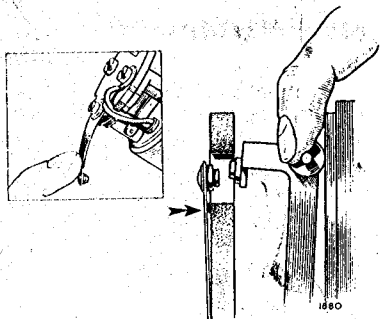

Fig. 12. Setting the contact blade to ensure contact with the pedestal ridge
27. Check that when the outer rocker is pressed onto the coil housing, the contact blade rests on the narrow rib or ridge which projects slightly above the main face of the pedestal (Fig. 12). If it does not, slacken the contact blade attachment screw, swing the blade clear of the pedestal, and bend it downwards a sufficient amount so that when repositioned it rests against the rib lightly, over-tensioning of the blade will restrict the travel of the rocker mechanism.